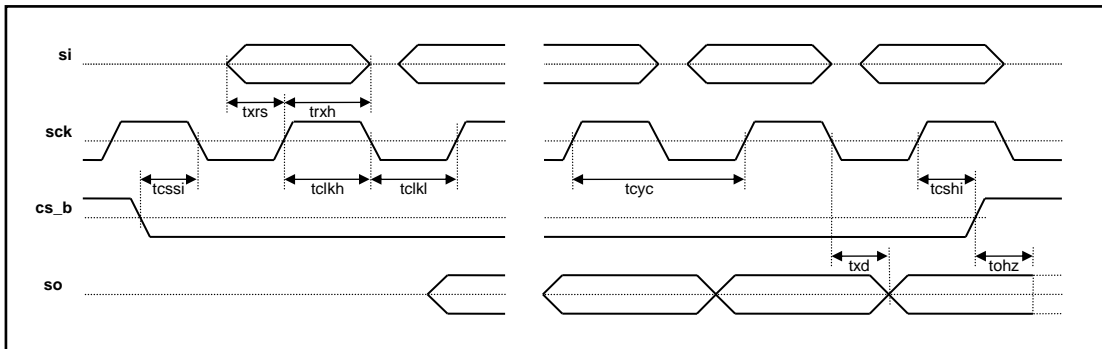

Figure 43. SPI (Serial Peripheral Interface) Timing - LSB First Mode
* For LSB first mode timing diagram, refer to Figure 43